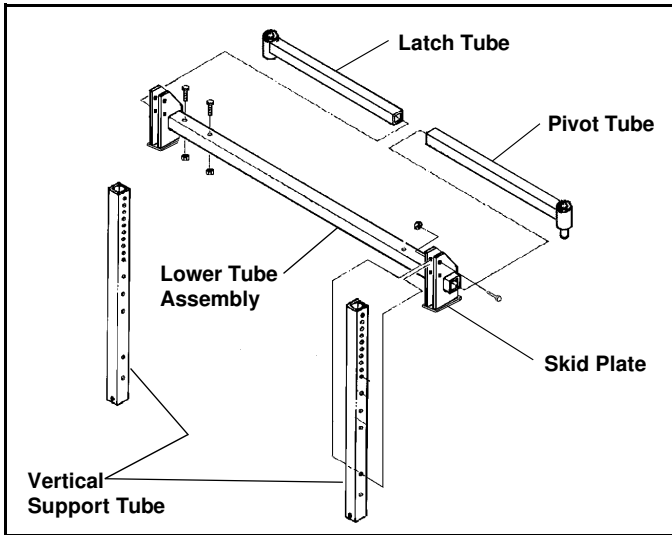

Figure 1-7
6. Orient the Lower Tube Assembly (#96102878) so that the skid plates are down and the mounting holes in the side plates are facing away from vehicle. Place the Pivot Side Tube Assembly (#96102870) into the right side of the Lower Tube Assembly, and place Latch Side Tube Assembly (#96102874) into left side of Lower Tube Assembly. (See Figure 1-7)
9. Place a Vertical Support Tube (#96101912) between the mounting plates on the Lower Tube Assembly and secure with two (2) 3/8" x 2-3/4" Cap Screws and Nylock Nuts provided. (See Figure 1-7)